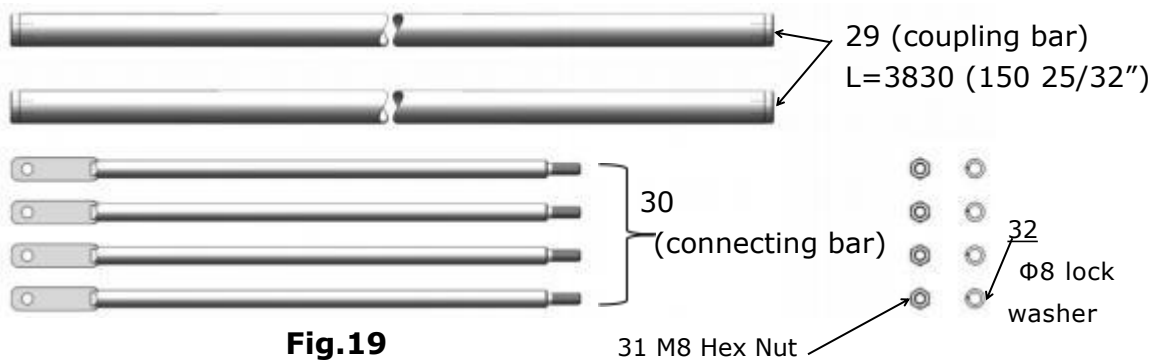

Fig.19
1. One safety device coupling bar assembly include one unit coupling bar, two units connecting bar, all parts see fig 19.